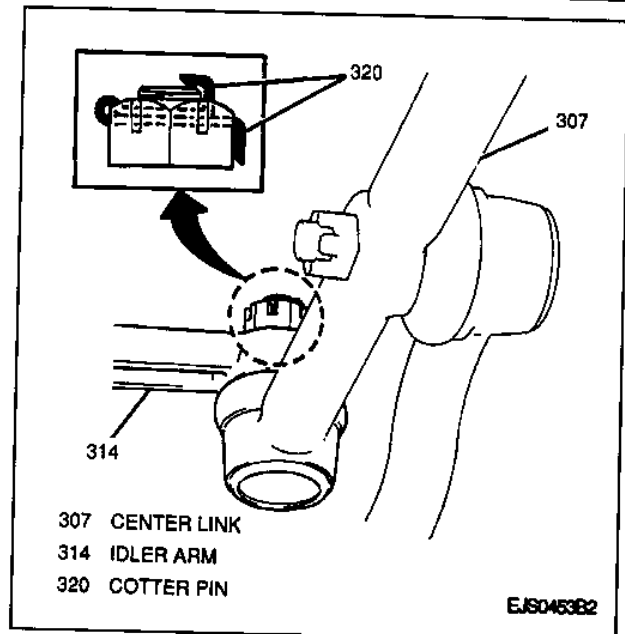

Figure 15—Installing Cotter Pin
3. Cotter pin to center link. Bend end of pin after installation (Figure 15).